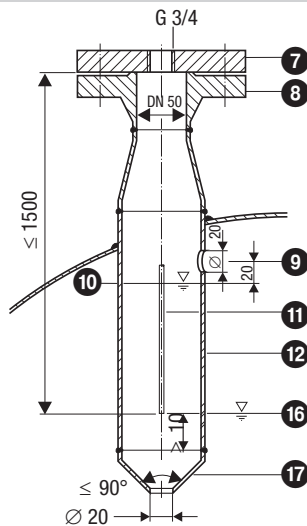

Fig. 5 Protection tube (provided on site) for installation inside the boiler
- The level electrode NRG 26-40 can be installed together with one GESTRA level electrode for water level limiting or for high-level alarm in a single protection tube or external level pot (inside diameter 100 mm). **Fig. 5 - 8**. If the level limiting electrode is installed inside the vessel, it must be at least 40 mm away from the upper vent hole.